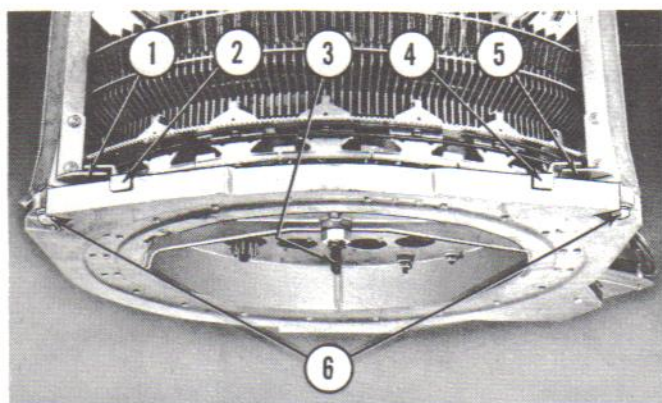
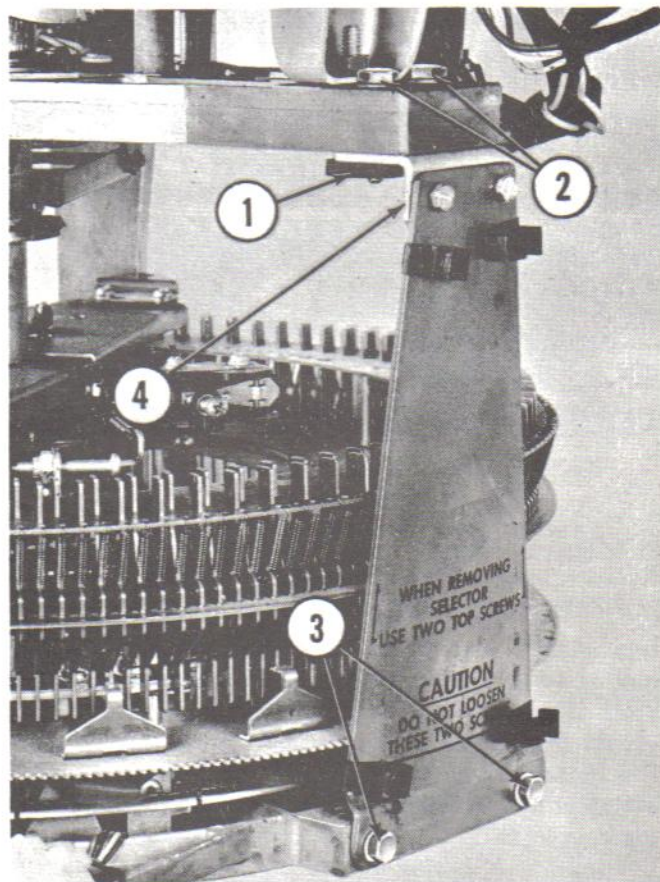
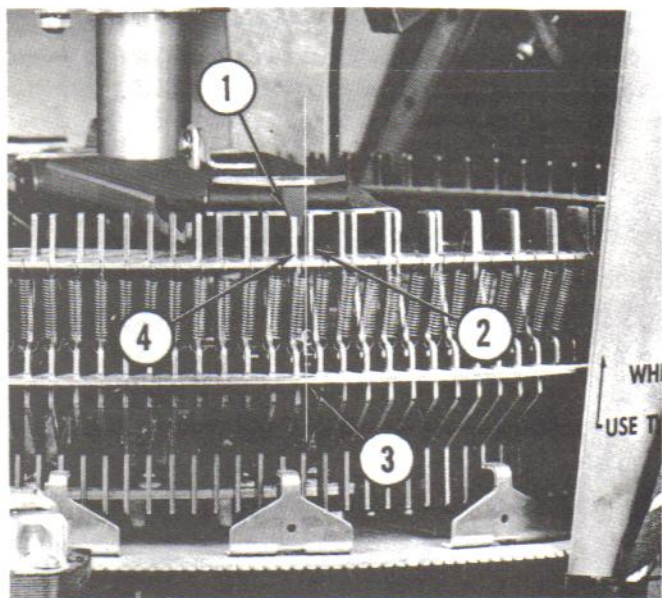

Fig. 27. ELECTRIC SELECTOR CENTERING
Fig. 28. ELECTRIC SELECTOR ADJUSTMENT - 2500
Fig. 29. ELECTRIC SELECTOR ADJUSTMENT - 2500
tion by two mounting screws (Fig. 27, Item 6) and by the mounting plate and silk screen assembly (Fig. 22, Item 7) at the rear of the changer. Observe the caution label on the mounting plate and only remove the upper two screws (Fig. 28, Item 2), holding the L bracket (Item 4) to the casting. It should be noted that there has been a change in the mounting plate and silk screen assembly after April 16, 1960. Therefore, when sending replacement electric selector assemblies to operators it will be necessary to have the correct mounting plate for the particular phonograph needing the replacement. Discussion of the alignment procedure will follow after the centering procedure.
(2) The front edge of the electric selector casting is provided with two guide brackets (Fig. 27, Items 2 & 4) which fit over two guide plates (Items 1 & 5) on the front hangers. The engagement of these brackets and hangers serves to support the front of the electric selector assembly, while the rear mounting plate and L bracket is loosely fastened by its two screws. The centering shaft, number 69247 (Fig. 27,
(3) When the electric selector assembly must be exchanged on a 200 selection phonograph involving different rear support plates the following procedure should be used:
(a) Mount the correct rear support plate to the electric selector assembly with the two bottom screws as shown in Figure 28, Item 3, and leave the screws loose enough for the plate to slide on its elongated holes. Follow the mounting procedure outlined under paragraph (2) above up to the point where the assembly is centered with the main shaft but the front and lower rear mounting screws are still loose. Then turn the record carrier by hand until H-1 record compartment is indexed at the left hand record lift arm. Going to the rear of the phonograph, the tip and mounting bracket on the selector crank arm which engages the inner selector pins will be visible to the left of the rear support plate as shown in Figure 29, Item 1. While in this position the elec-
tric selector assembly may be turned in either direction on its mounting to locate H-1 selector pin to the right of the tip (Item 2) on the selector arm. The tip should be approximately on the center line between H-1 inner pin and H-2 outer pin as shown in Item 3. Maintain this alignment and tighten the lower mounting screws (Fig. 28, Item 3) in the rear support plate. Continue by following the directions under paragraph (2) for centering the electric selector and tighten all mounting screws, checking to make sure that the centering shaft will slide freely in and out of the main shaft. Following the installation of the replacement electric selector and rear support plate it will be necessary to readjust the selector crank actuating screw, the stop screw, the kick-off screw and possibly the selector crank clearance and cancel adjustment. These adjustments will be found in the Index to Adjustments by the same names and should be set in the sequence given.